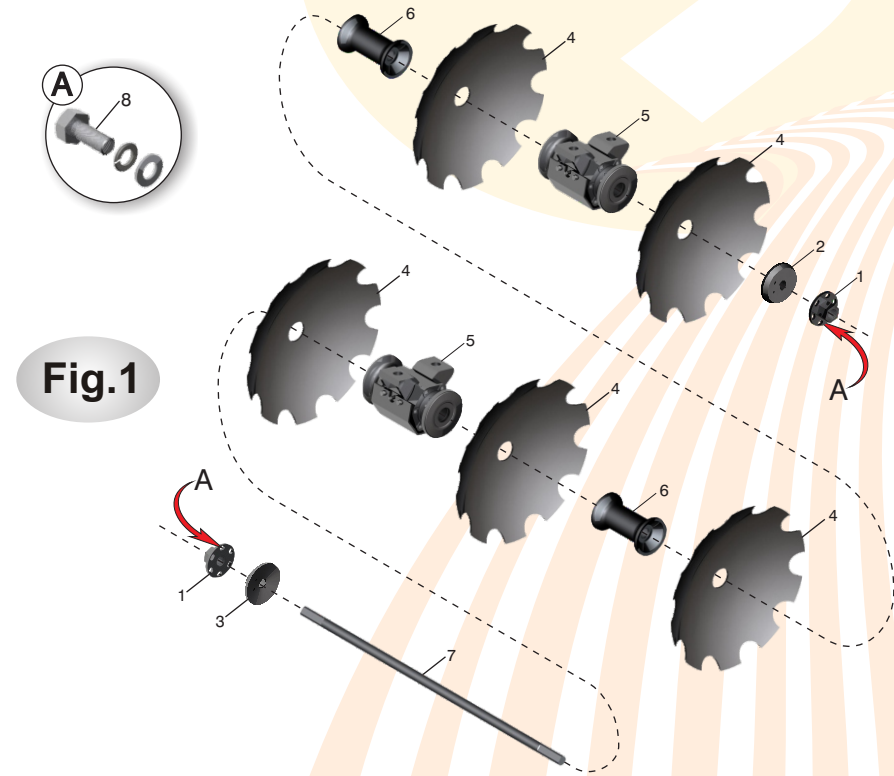

Fig.1
Hold the axle (7) and one of the ends, place the external abutment (3) and then screw the left nut (1) until facing the tip of the axle, leaving it to be tightened at the end of the assembly. The first disc is assembled (4), along with bearings, spacers, and other components as per sequence of figure 1.